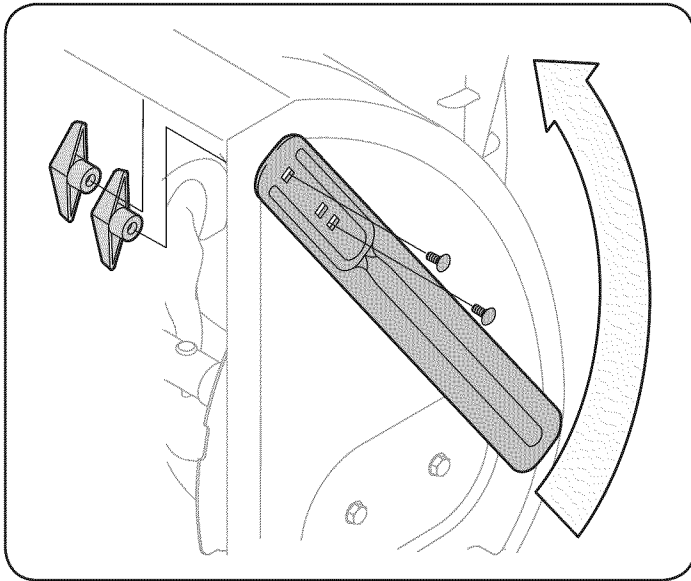

Figure 9
1. Remove the four wing knobs (two on each side) and carriage bolts. Place drift cutter in upright position and re-secure. See Figure 9.